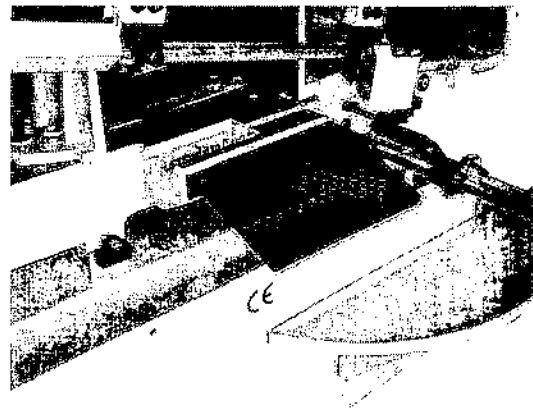
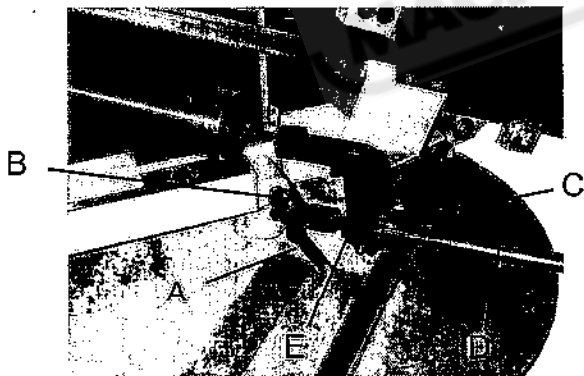

Fig. 11
Fig. 13
1. Unfasten the handle (A - Fig. 13), and use a hex wrench (allen wrench) to loosen the hex socket set screw (B - Fig.13)
2. Push the bar gradually to the right side to get the desired angle and then tighten the set screw (B - Fig. 13) and handle (A - Fig. 11).
3. Loosen the handle (C - Fig. 13), and according to the scale (D - Fig. 13) to adjust the length by moving the stop bracket (E - Fig. 13)
4. Retighten the handle (C - Fig.13)